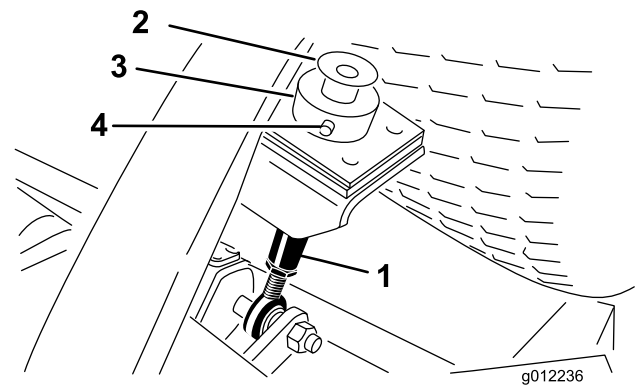

Figure 20
2. Remove the bolt and washer mounted to the top of each height of cut rod (Figure 20).
3. Remove the hairpin and clevis pin securing the height of cut collar to the height of cut rod on the rear of the cutting unit (Figure 20). Remove the height of cut collar.